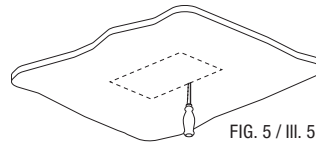

FIG. 5 / III. 5
1. Determine housing position and cut hold (Fig. 5).